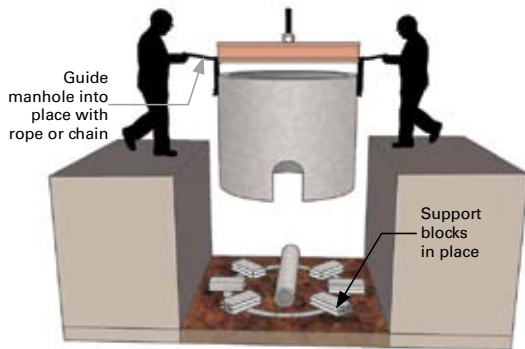

Fig. 6
Step 6: After the support blocks are installed, the precast section can be lowered into position. Take care to avoid damaging the existing pipe. Use a rope or chain on each side of the hole to guide the structure into place (see Fig. 6). Do not allow anyone in the excavation until the manhole structure is resting securely on the bottom.